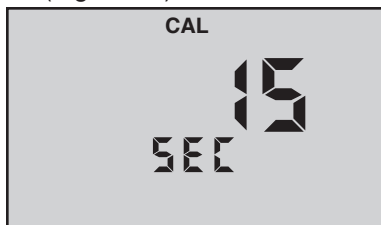

Figure 25
4. Press  to initiate. **"CAL"** will be displayed along with **"15 SEC"** or current Auto OFF value (see Figure 25).